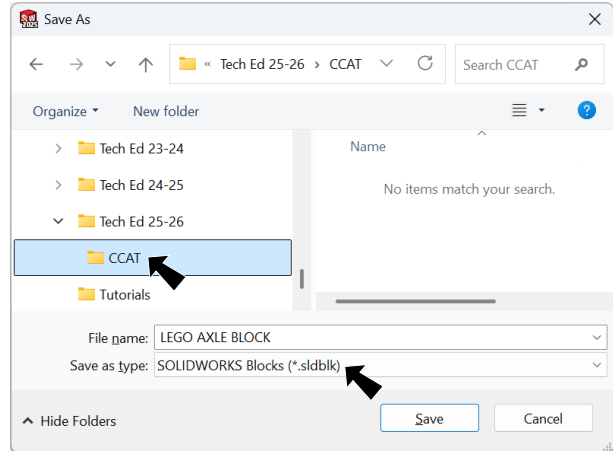

Fig. 11
Step 2. In the Save As dialog box, **Fig. 11**